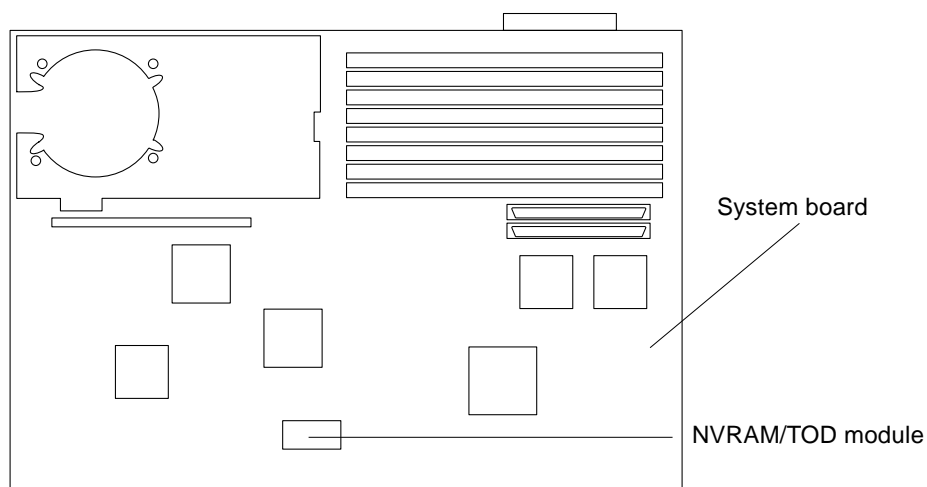

Figure 2-6 NVRAM/TOD Module Location
- 1. Locate the NVRAM/TOD module on the system board (Figure 2-6).**